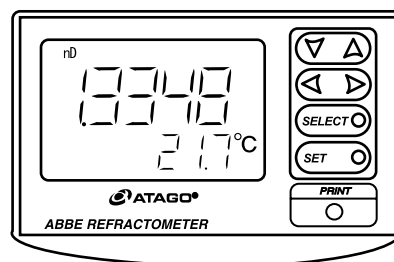

Fig. 5-2
- ④ Press the power switch of the main unit and the power is supplied to it with indication of the present mode*, number (nD or Brix%) corresponding to the setting position of the measurement knob and temperature in the display (Fig. 5-2).